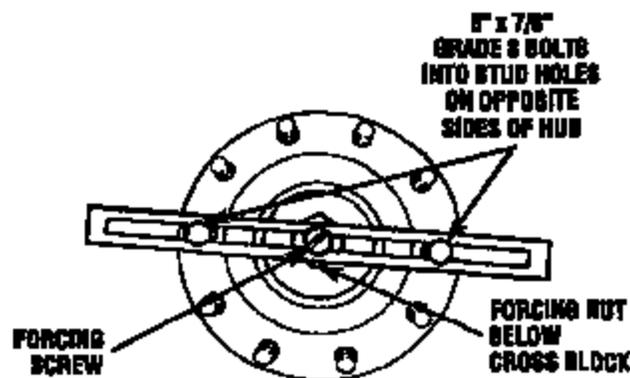

Figure 2
2. Assemble the cross block puller with two 8" x 7/8" Grade 8 bolts onto the face of the wheel hub unit assembly. Refer to Figure 2.